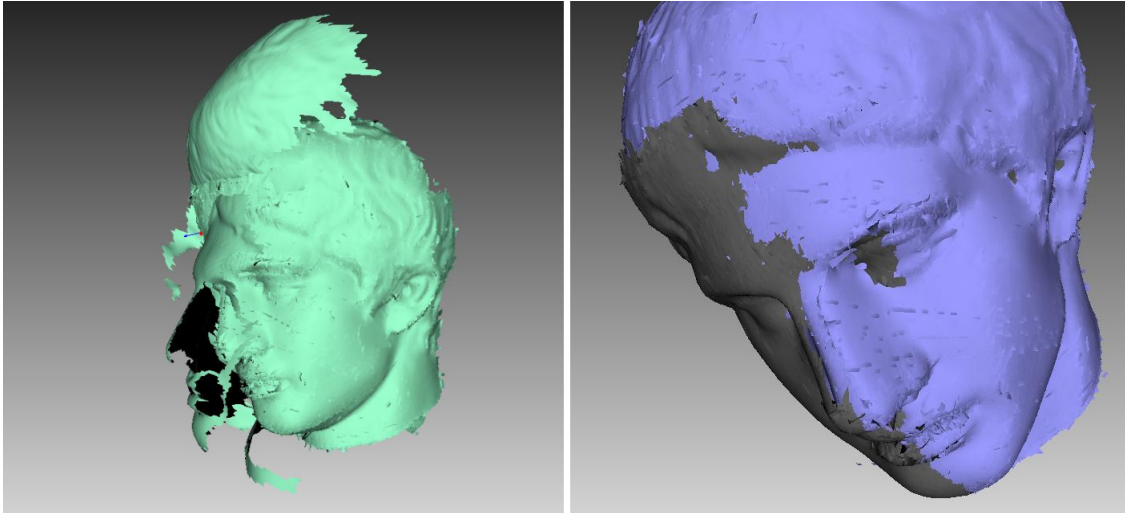

Figure 135: Global-registration errors: wrong settings on left and gap between scans on right.
- After the global-registration algorithm finishes, the frames are in disarray (see Figure 135, left) or the frame positions are unchanged. This error occurs because the application is configured for a different scanner type than the one that captured the data. Change the device type in the application settings (see Algorithm Settings).
- The algorithm has completed successfully, but a gap exists between two or more scans (see Figure 135, right). Select just these scans in the *Workspace* panel and run the global-registration algorithm. If the scans have drawn closer to each other but have failed to align after the algorithm finishes, increase the number of iterations and rerun the algorithm. Repeat this process until you achieve full alignment, then run global registration once again for all data. If you are unable to align several problematic scans, try aligning just two of them, then gradually increase the number of scans until all of them are aligned.